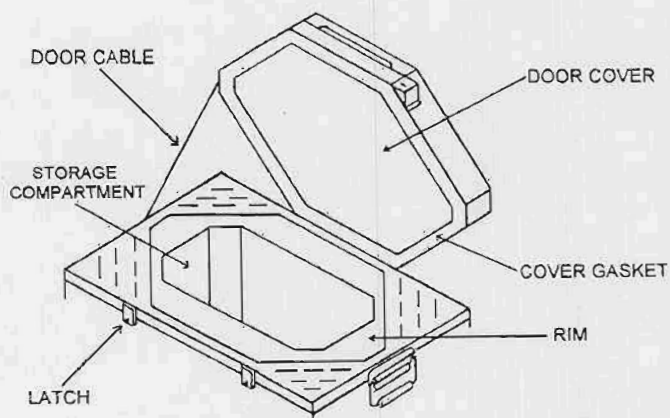

Figure 1-3. Door cover.
(2) *Cover assembly.* The door cover incorporates a gasket, a hinge, a latch, and a cable to prevent damage to the door cover (fig 1-3).